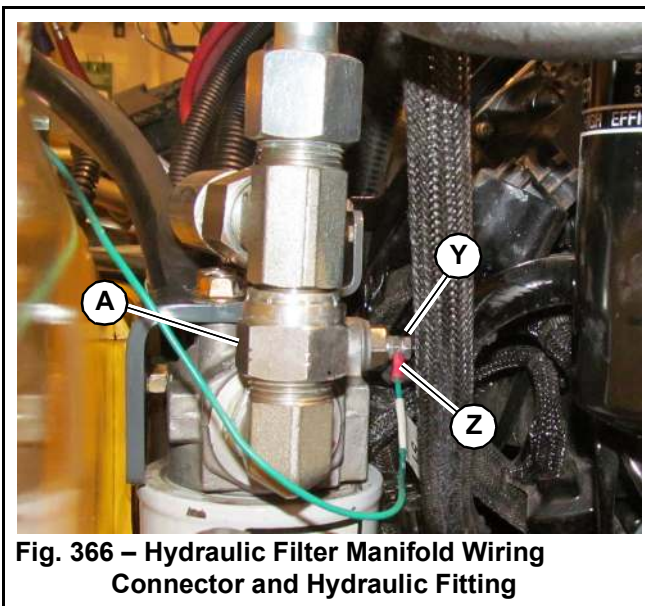

Fig. 366 – Hydraulic Filter Manifold Wiring Connector and Hydraulic Fitting
29. Remove nut and washer (Y, Fig. 366). Disconnect wiring connector (Z).